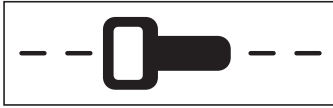

Fig. 27: Receiver oriented to the assumed route of the line for passive location
5. As soon as you receive a corresponding signal, hold the receiver with the handle parallel to the assumed route of the line (Fig. 27).